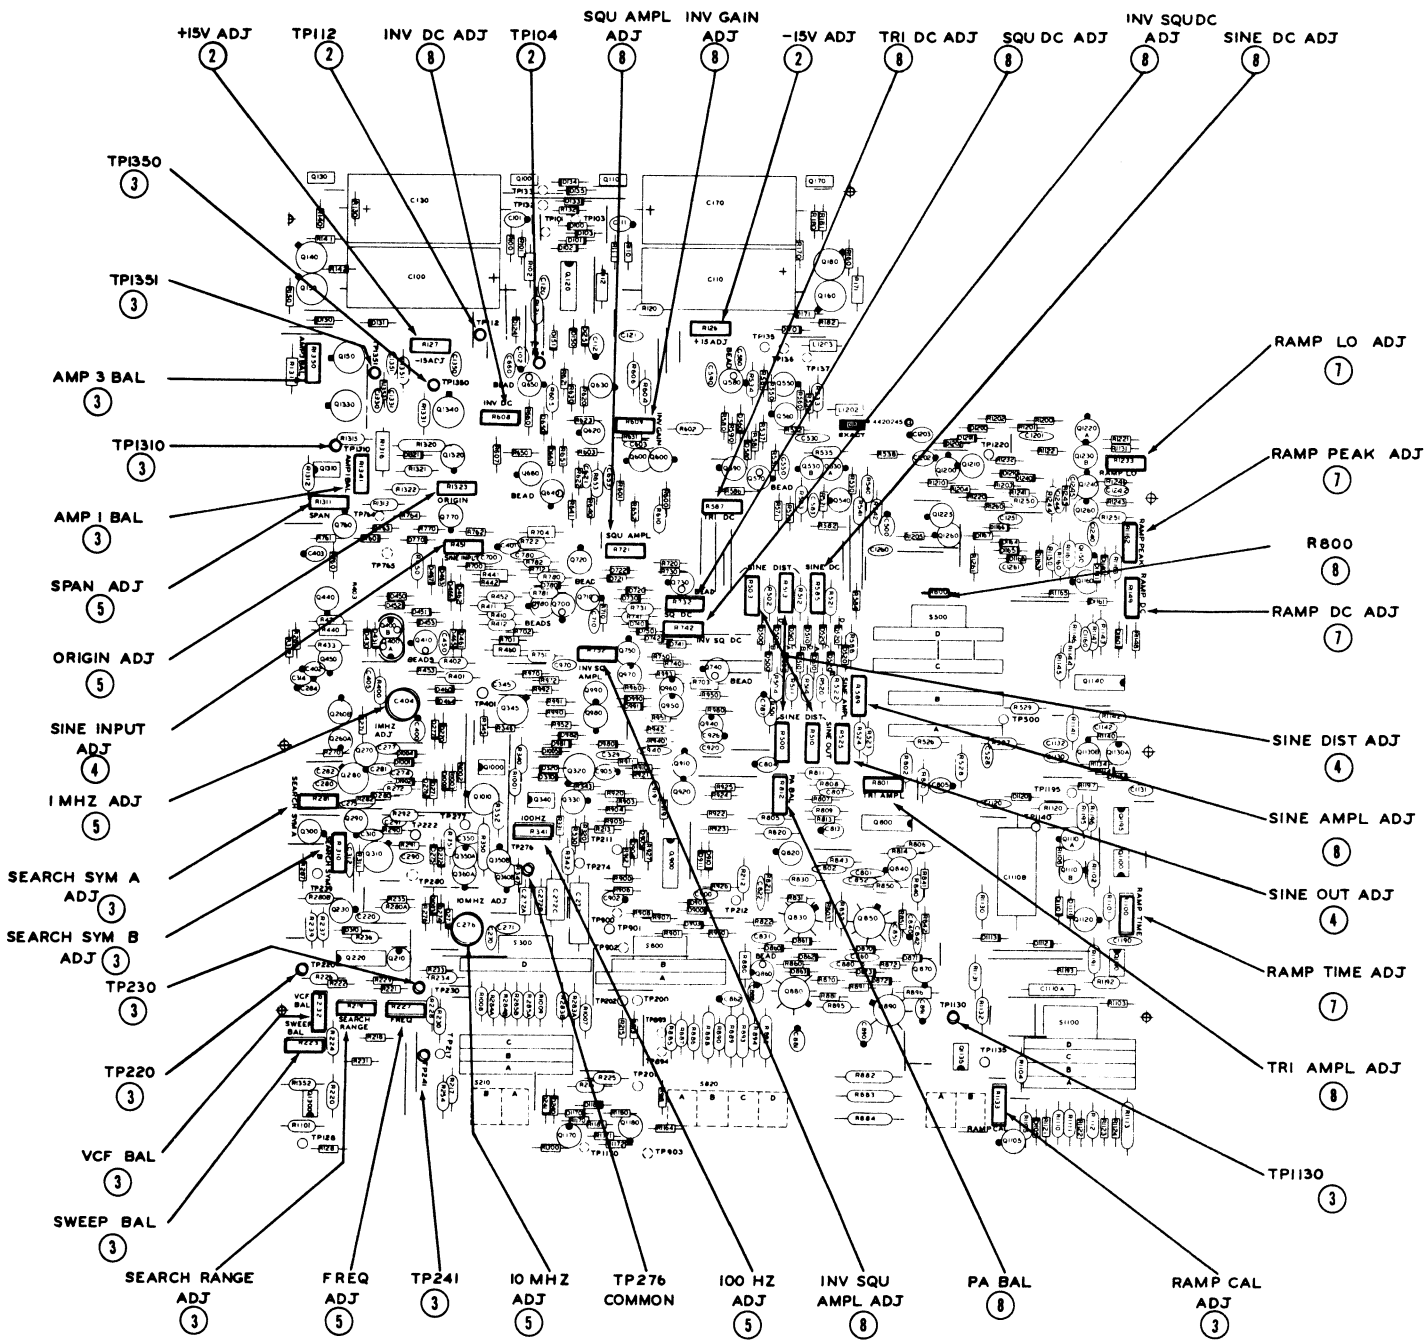

Figure 3.0.1 ADJUSTMENT LOCATION DETAIL
3.0 CALIBRATION PROCEDURE (Fig. 3.0.1)